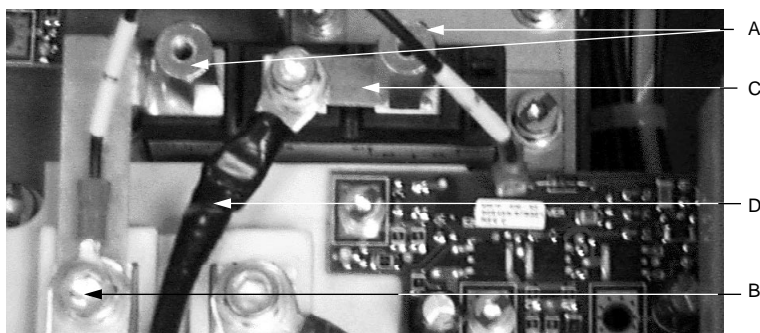

Figure 4.2.21: Removing the DB Diode Module
3. Remove the two standoffs from the DB diode module (**A** in Figure 4.2.21).
4. Loosen the Q7-C terminal screw on the DB IGBT module (**B** in Figure 4.2.21) and rotate the bus between the IGBT module and the diode module to the left (**C** in Figure 4.2.20 on page 4.2.40).
5. Loosen the hex screw to remove the DB rectifier wire (**D**) from the diode module. Remove the DB diode module connector between the DC rectifier connection and the right standoff (**C**). (See Figure 4.2.21).
3. Align the DB diode module connector (**C** in Figure 4.2.21 on page 4.2.43) over the KI and KII mounting holes on the DB diode module. Align the DB rectifier cable (**D** in Figure 4.2.21) over the KI mounting hole and install the mounting screw (do not tighten). Install the right standoff through the connector into the KII terminal. Using a torque wrench and a hex key socket, install and tighten the mounting screw in the KI mounting hole to 27 lb-in (3 N•m).
4. Align the bus between the IGBT module and the diode module (**C** in Figure 4.2.20 on page 4.2.40) over the AA mounting hole of the DB diode module. Using a torque wrench and drive socket, install and tighten the two standoffs (**A** in Figure 4.2.21) on the diode module to 18 lb-in (2 N•m).
5. Using a torque wrench and a hex key socket, torque the Q7-C terminal screw on the DB IGBT module (**B** in Figure 4.2.21) to 27 lb-in (3 N•m).